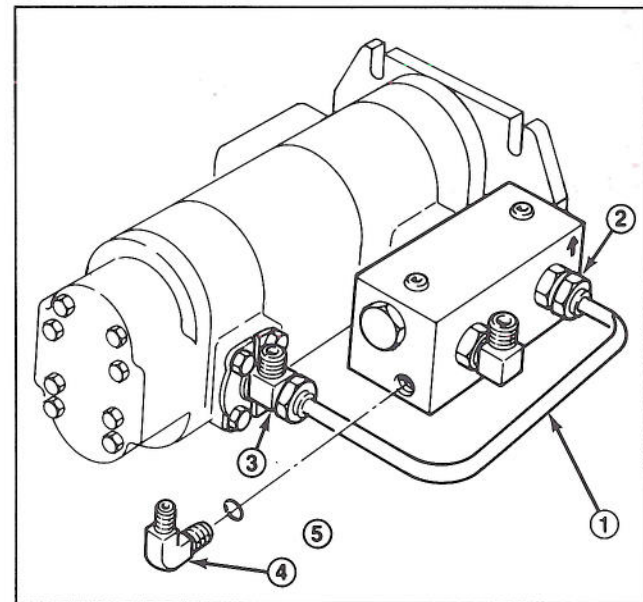

**Figure 6**
1. Install T-fitting and O-ring in port at left rear of pump, using existing two-piece mounting flange, four lockwashers and capscrews (Fig. 6).
2. Connect U-shaped hydraulic tube and O-rings to end of T-fitting and the straight fitting at front of flow combining valve (Fig. 6).